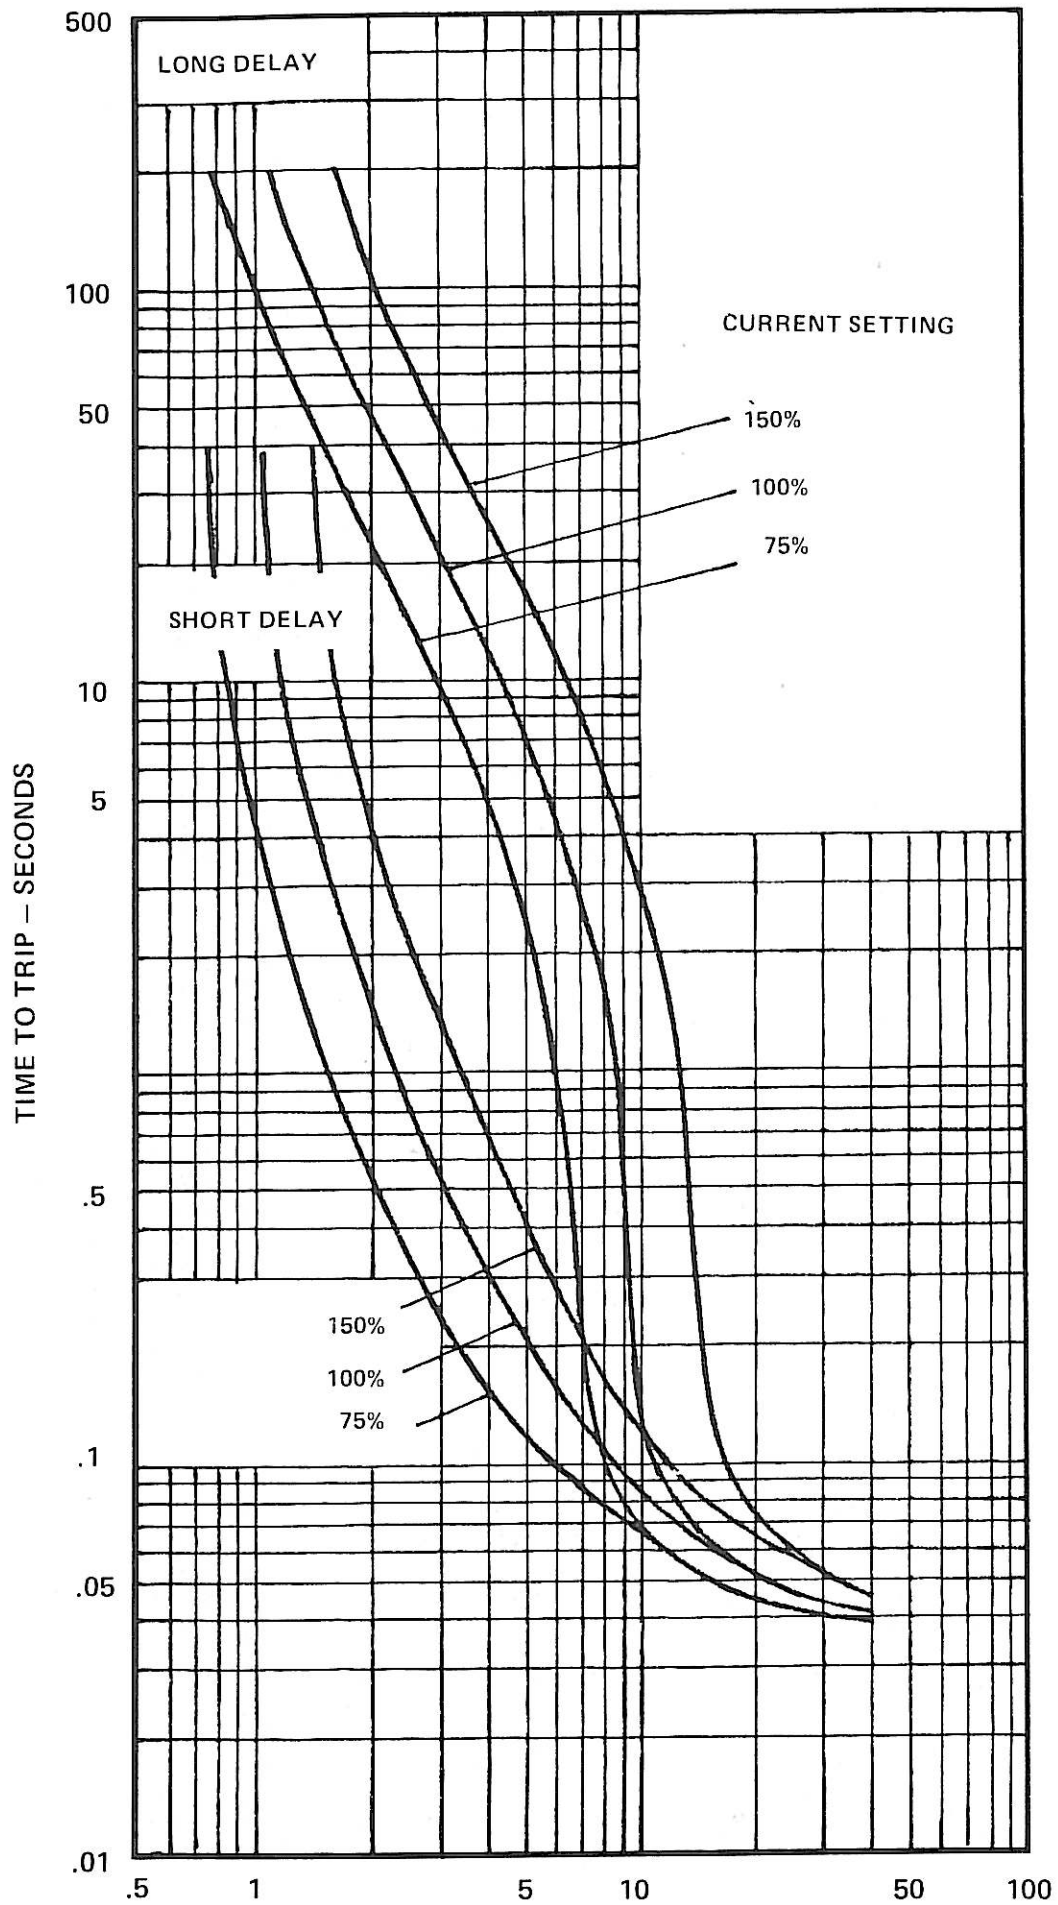

FIG 3 CURRENT - TIMES RATED I
Figures 3, 4, and 5 show time lag curves for the range of breakers. The time lag in seconds for the breaker to trip is shown in multiples of the rated series coil current in the case of the 'OMA8' breaker and as a multiple of the C.T. primary current rating in the other cases.
The time lag depends on the current setting of the dashpot and curves for 75%, 100%, and 150% are shown on Figs. 3 and 4. These are applicable to breakers supplied since about the middle of 1973 with dashpot calibration marks covering this range. Figs. 5a, 5b and 5c show the curves for breakers supplied prior to about the middle of 1973 with dashpot calibration marks covering the range 100% to 200%. In all cases, dashpots must not be set lower than the lowest calibration mark.
- (b) 'OMA12' Breaker, 1600 amp., dashpot current setting 150%, plunger time setting 'long'. For an overload of 3200 amp. i.e. 2 x 1600 amp., the time lag is 110 seconds from Fig. 3. For a short circuit of 20000 amp. i.e. 12.5 x 1600 amp., the time lag is 1.0 seconds.